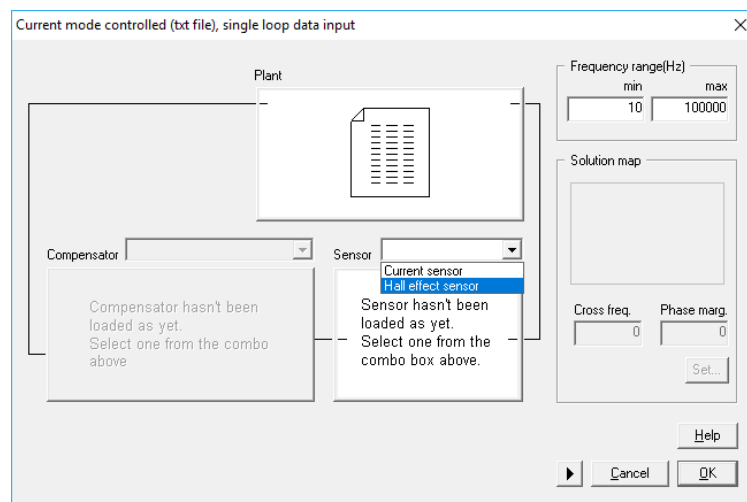
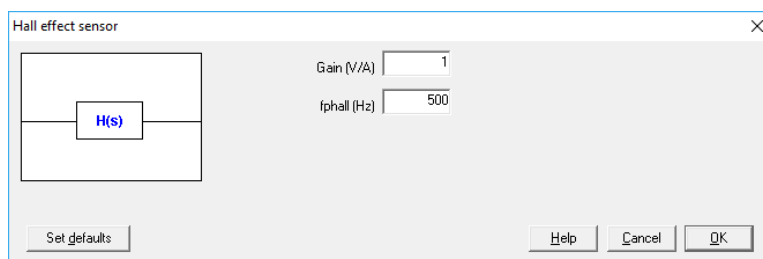

Figure 8: Current sensor choices
Figure 9: Current sensor parameters
3. Specify the current sensor. See Figure 8 and Figure 9.
The current sensor specification window is automatically shown. It is necessary to set the sensor gain and the bandwidth (pole frequency) of the Hall effect sensor. Then, press OK. Type the values shown in Figure 9